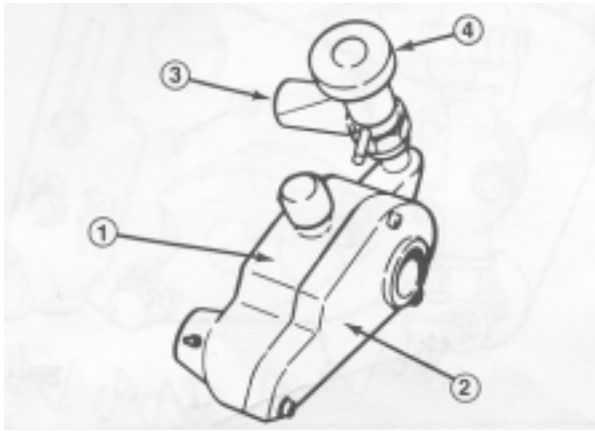

Figure 7
A. Remove the housing assembly cover (Fig. 7).
B. Disassemble the adjustment knob assembly and separate the mounting block from the assembly (Fig. 7). Discard cotter pin (pin for shipping purpose only).